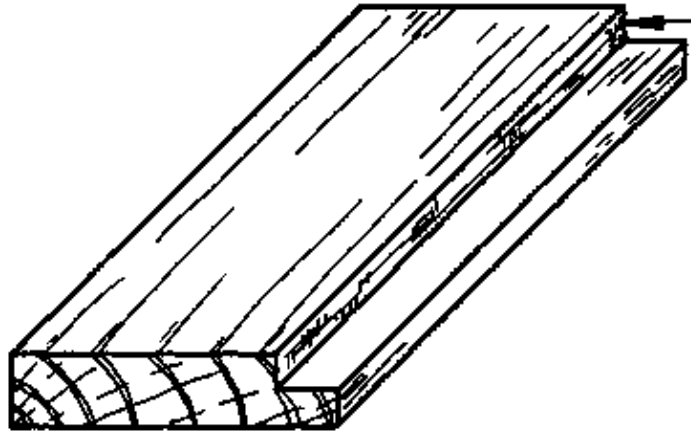

Fig. 5
– REBATE: This is a recess cut along the edge or across the end of a board as in Figs. 5 & 6.
- SHOULDER: The vertical portion of a trench or rebate (arrows, Figs. 5 & 6).